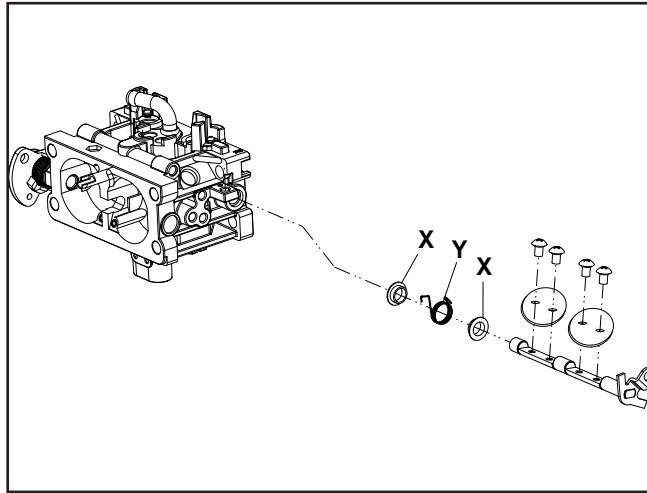

Figure 30
1. Place a drop of motor oil on each bearing surface of the shaft (Figure 30).
2. Install the spring and guides onto the throttle shaft if previously removed. Place a plastic guide (X) (Figure 30) on each side of the spring (Y). The long end of the spring is toward the carburetor, the short end hooks over the tang.